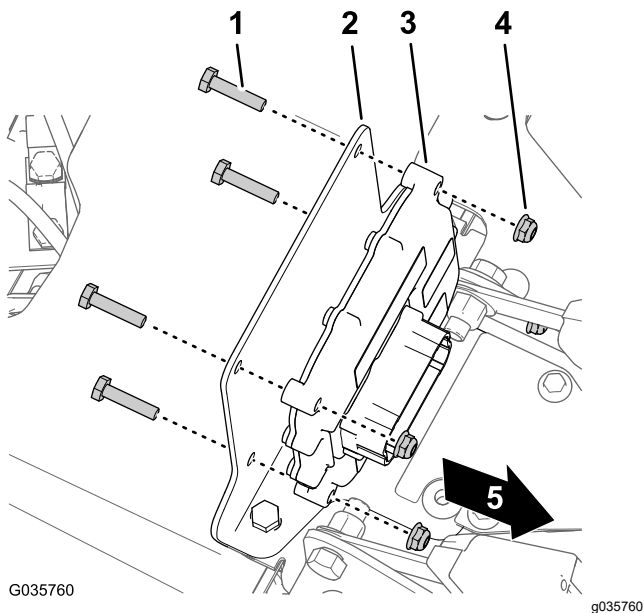

Figure 32
2. **For 2015 and before machines**—locate the knockout plug between the inboard operator and passenger seat-belt halves, and remove the knockout plug from the console base (Figure 32).
3. Assemble the electronic controller to the mounting bracket (Figure 32) with the 4 bolts (1/4 x 1-1/8 inch) and 4 locknuts (1/4 inch).